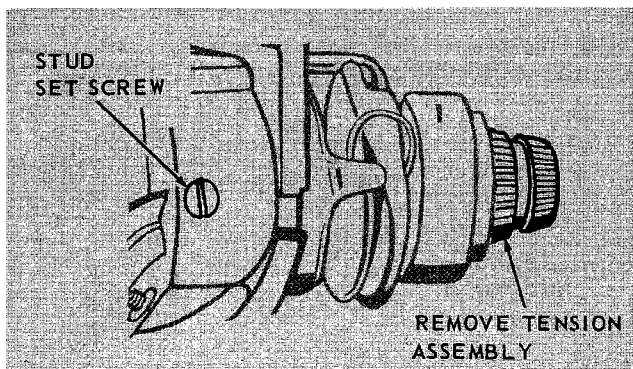

Fig. 30. Removal of Tension Assembly
1. Turn thumb nut to left until zero (0) on dial reaches indicator line.
2. Loosen stud set screw, Fig. 30, and remove entire assembly from machine.